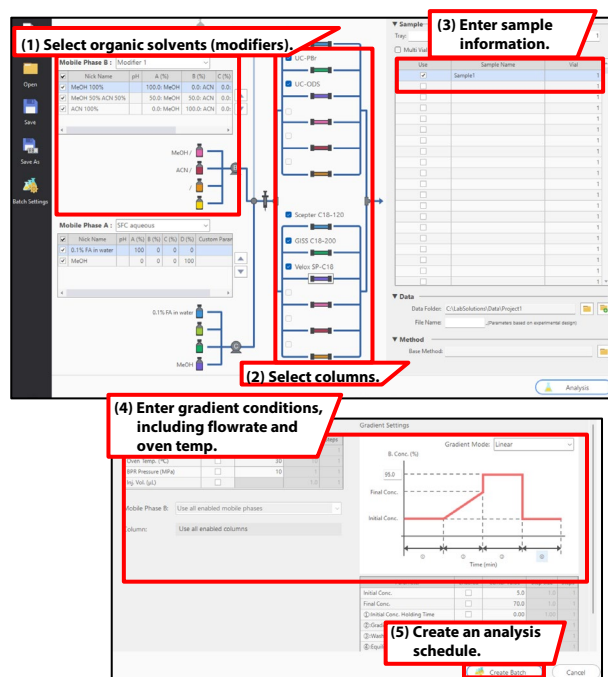
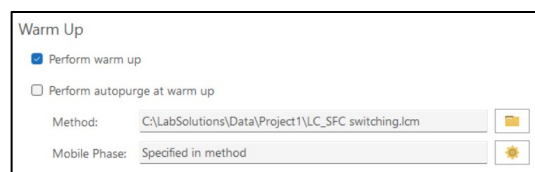

Fig. 2 Easy Creation of Analysis Schedule by LabSolutions MD
Fig. 3 Method Selection Screen for LC/SFC Switching
A case study of screening to find the optimal combination of columns and mobile phases for SFC analysis is presented (screening conditions: Table 1; target compounds: Table 2). Three columns with different stationary phases were evaluated. Three modifier compositions (0%, 50%, and 100% acetonitrile in methanol) were tested. A comprehensive analysis schedule covering all 9 (3 × 3) combinations of columns and modifiers was generated to identify the optimal combination. LabSolutions MD enables error-free automatic generation of analysis schedules combining columns, mobile phases, and other parameters (steps (1)–(5) in Fig. 2). Column switching valves allow automatic selection of the desired column (step (2) in Fig. 2). Modifier composition changes are automatically prepared using the mobile phase blending function by simply selecting the desired composition (step (1) in Fig. 2). This reduces manual preparation work and prevents errors. LC and SFC switching is performed automatically by executing the analysis schedule generated in LabSolutions MD. The specified switching method (Fig. 3) automatically replaces the flow path, allowing consecutive analyses without manual intervention or influence from the previous analysis.